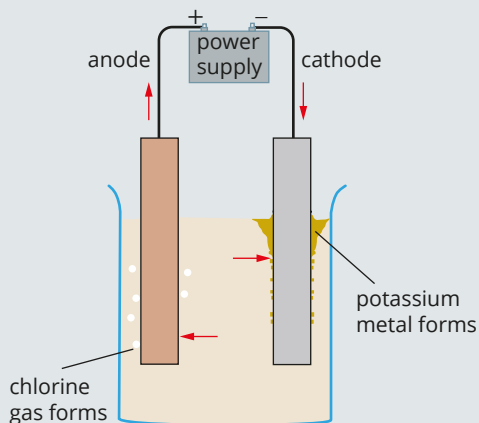

FIGURE 10.4.2 Electrochemical cell
- An electrochemical cell (Figure 10.4.2) is set up to produce potassium metal. Label the parts of the cell using the following options (options may be used more than once): Cl^- , molten potassium chloride, platinum, K^+ .